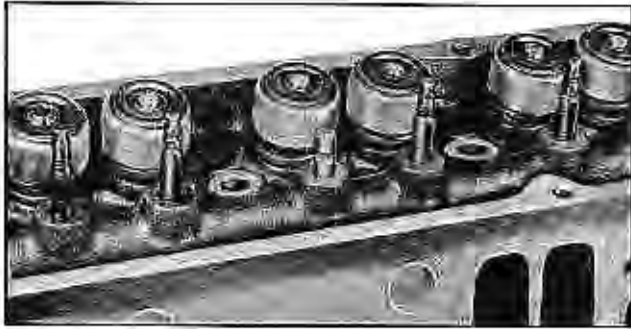

Fig. 6-30 Slots Filed in Rocker Arm Stud
2. With rocker arm removed, file two slots $\frac{3}{32}$ " to $\frac{1}{8}$ " deep on opposite sides of rocker arm stud (Fig. 6-30). Top of slots should be $\frac{1}{4}$ " to $\frac{3}{8}$ " below thread travel.